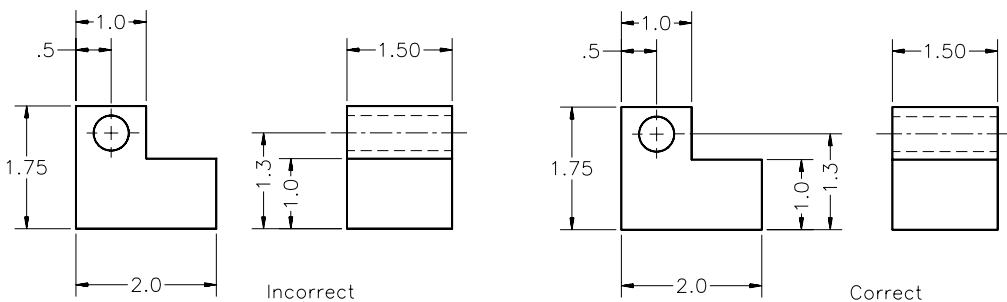

Figure 22-36 Dimensions should be given where they are obvious
10. The dimensions must be given where the feature that you are dimensioning is obvious and shows the contour of the feature (Figure 22-36).